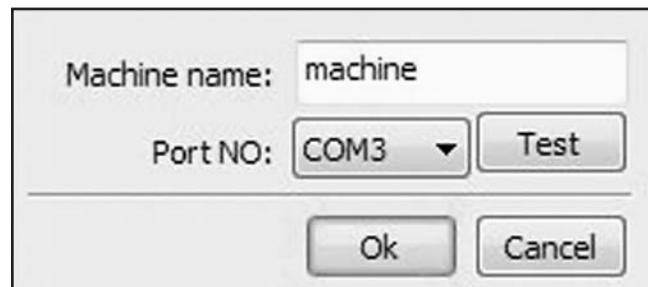

Figure 37. USB port setting dialog box.
4. Select "USB" and click "Add" button to open USB Port Setting dialog box (see **Figure 37**).